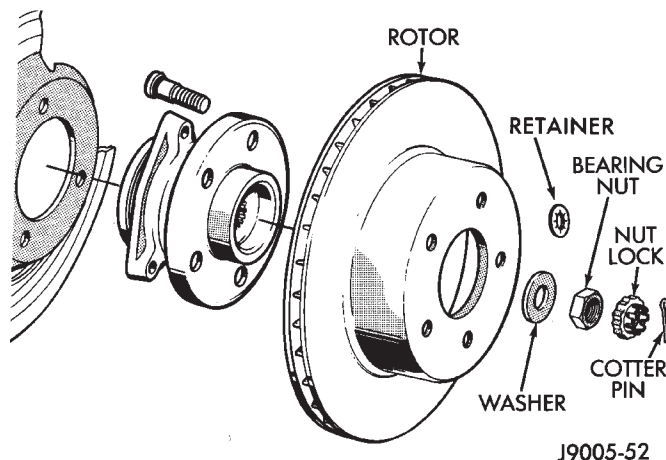

Fig. 23 Disc Brake Rotor Mounting
- (1) Raise vehicle and remove wheel.
- (2) Remove caliper.
- (3) Remove retainers securing rotor to hub studs (Fig. 23).
- (4) Remove rotor from hub (Fig. 23).
- (5) If rotor shield requires service, remove front hub and bearing assembly.